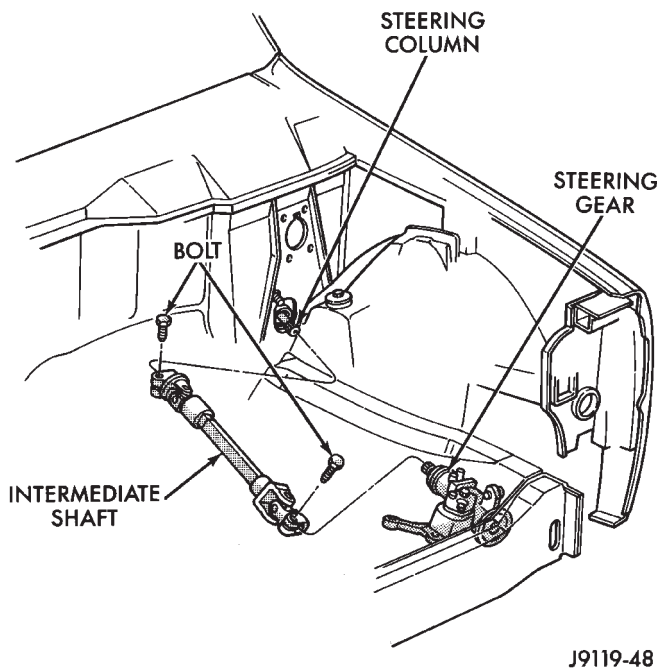

Fig. 4 Coupler Shaft—XJ
- (1) Place the front wheels in the straight ahead position.
- (2) Remove the shaft pinch bolt at the steering gear and column (Fig. 4, 5). Unbolt steering gear from frame rail to remove shaft. Refer to Steering Gear Replacement in this section.